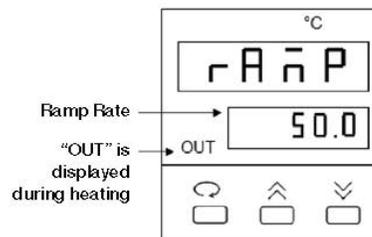

Fig. 2. Ramp Control Screen.
2. Use the ↺ key to display the ramp control screen. (Fig. 2.)